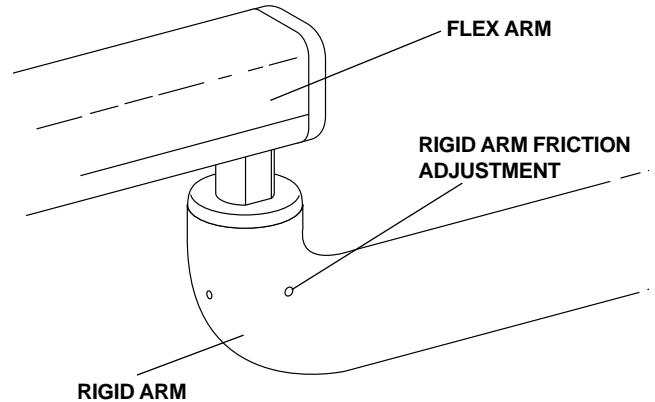

FIGURE 20
1. The rigid arm includes a friction adjustment to eliminate horizontal drift of the control head (see *Figure 20*). Turn the adjustment setscrew clockwise to increase friction on the flex arm knuckle.